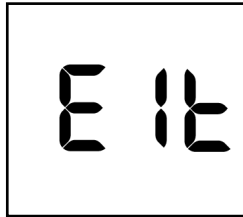

Fig. 18
- Press ⏻ button to turn to exit screen. (Ref Fig. 18)